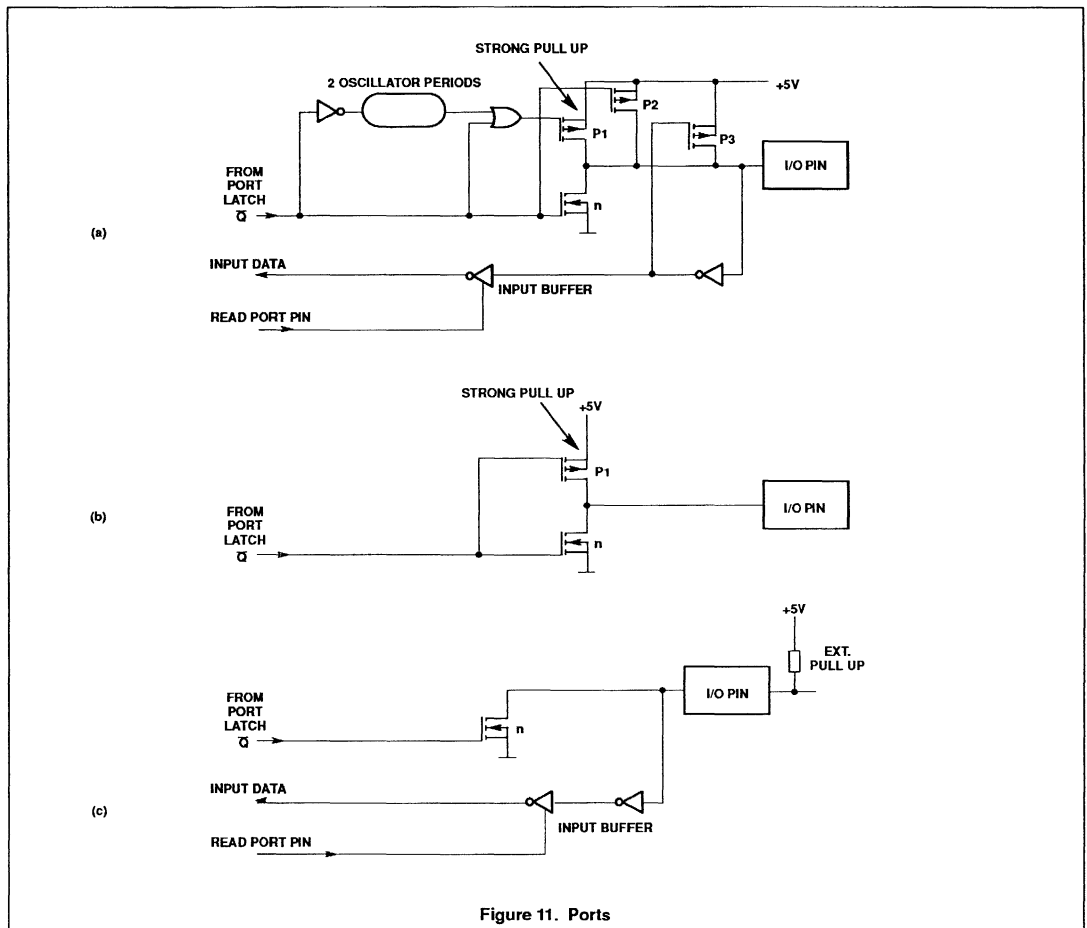

Figure 11. Ports
Each port consists of a latch (Special Function Registers P0 to P3), an output driver and an input buffer. Ports 1,2,3 have internal pull ups. Figure 11(a) shows that the strong transistor p1 is turned on for only 2 oscillator periods after a 0-to-1 transition in
The pins of port 1, port 2, and port 3 may be individually configured with one of the following options (see Figure 11):
- Option 1: Standard Port; quasi-bidirectional I/O with pull up. The strong booster pull up p1 is turned on for two oscillator periods after a 0-to-1 transition in the port latch (see Figure 11(a)).
- Option 2: Open drain; quasi-bidirectional I/O with n-channel open drain output. Use as an output requires the connection of an external pull up resistor (see Figure 11(c)).
- Option 3: Push-Pull; output with drive capability in both polarities. Under this option, pins can only be used as outputs. See Figure 11(b).
Option 2: Open drain; quasi-bidirectional I/O with n-channel open drain output. Use as an output requires the connection of an external pull up resistor (see Figure 11(c)).
The status of the external pins during Idle and Power-down mode is shown in Table 1. If the Power-down mode is activated while accessing external memory, port data held in the Special Function Register P2 is restored to Port 2. If the data is a logic 1, the port pin is held HIGH during the Power-down mode by the strong pull up transistor p1 (see Figure 11(a)).